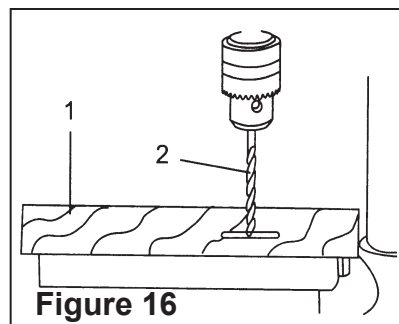

Figure 16
See Fig.16
### Workpiece method (Figure 16 and 17)
- A. Mark the depth (2) of the hole on the side of the workpiece.(1) (Figure 16).
- B. With the switch "OFF", bring the drill bit (2) down until the tip is even with the mark (Figure 16).